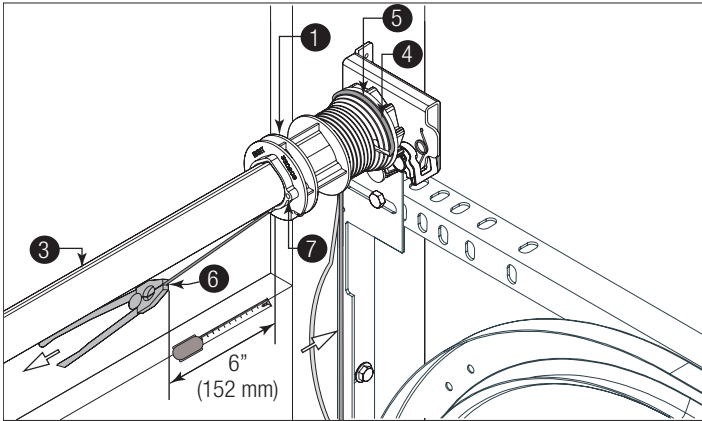

Figure 38, Right Side Shown
See Figures 38 through 40 for the following steps.
**NOTE:** Figures 38 through 40 shows the right side cable drum assembly. Repeat the process for the left side.